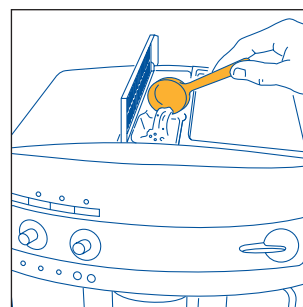

Fig.19
2. Lift the lid in the centre, insert the pre-ground coffee measure in the funnel (see fig. 19) and proceed as described in paragraph 5.